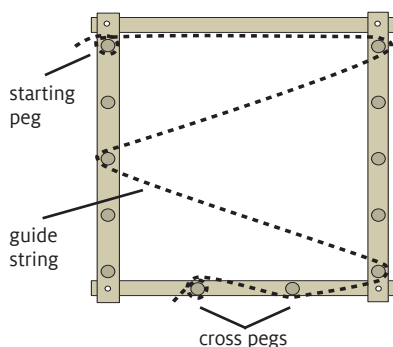

FIGURE 12: SET UP THE GUIDE STRING
2. Cut the guide string a few inches longer than your warp length. Tie one end around the left cross peg, as shown in Figure 12. Pass the guide string under the right cross peg, then outside the next closest peg.